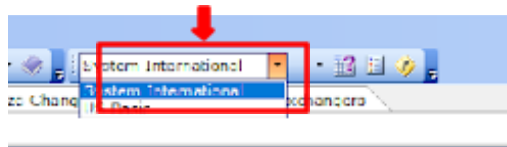

Figure 31: Unit Selector Drop-Down Menu.
27. Click the drop-down menu to select a unit set. There are two default unit sets available: System International and US Basic (Figure 31).